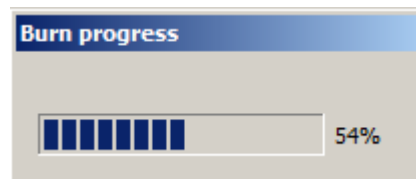

Figure 20 — MasterCAN Tool firmware update progress
- 4) By pressing the buttons **Firmware** → **Select firmware file ...** open the file selection dialogue and select the firmware file (*.bif3). After the autocheck of the firmware file for its integrity and compatibility the software will activate the loader mode and the window **Burn progress** will appear showing the per cent of loading the firmware file into the Adapter memory (see figure 20).